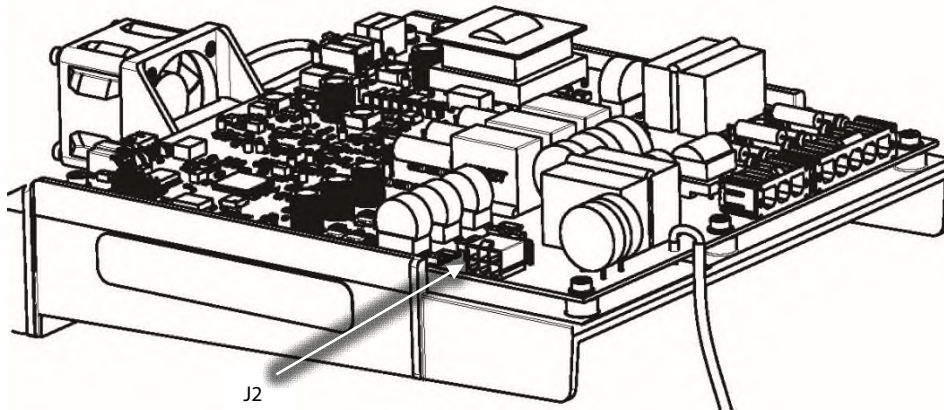

Figure 24 – J2 Connection at Soft Start
- b. Install the other end of the Soft Start SCR Gate Harness into the J2 connector on the Soft Start. Refer to Figure 24 – J2 Connection at Soft Start.